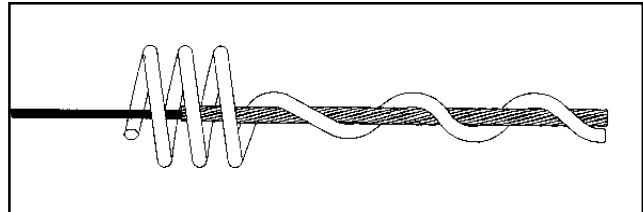

FIGURE 4 - COMPLETED APPLICATION
2.04 When installation is complete (Figure 4), the ADSS cable should run more or less through the middle of the coil section and the coil itself should not come in contact with the cable. Also, all ends of the Structural Reinforcing Rods should be located inside and approximately in the center of the coil section. Remove and reposition the coil if necessary to obtain proper location.